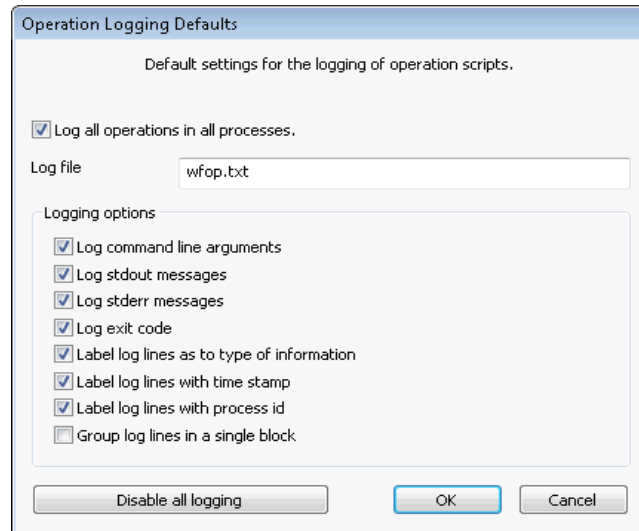

Figure 2-19: Operation Logging Defaults
7. The Process Properties Operations tab includes a “Logging” button that brings up a dialog box (Figure 2-19) for setting the three default resources and for disabling all logging in the process. The operations tables in the Activity Notebook Post-operations tab and the Process Properties Operations tab includes a third column labeled “Logging”. In each row of the tables this column shows the options and file resources that apply to that row. (If no options value has been set by any resources, then none is shown. If logging has not been enabled for the row, then the entire column is blank.) Clicking on or attempting to change the text in this third column brings up a dialog box for choosing options with check boxes and a box for typing in the log file name.
7. The operations tables in the Activity Notebook Post-operations tab and the Process Properties Operations tab include a third column labeled “Logging”. In each row of the tables this column shows the options and file resources that apply to that row. (If no options value has been set by any resources, then none is shown. If logging has not been enabled for the row, then the entire column is blank.) Clicking on or attempting to change the text in this third column brings up a dialog box for choosing options with check boxes and a box for typing in the log file name (Figure 2-19). For additional information on Workflow logging refer to Appendix C.